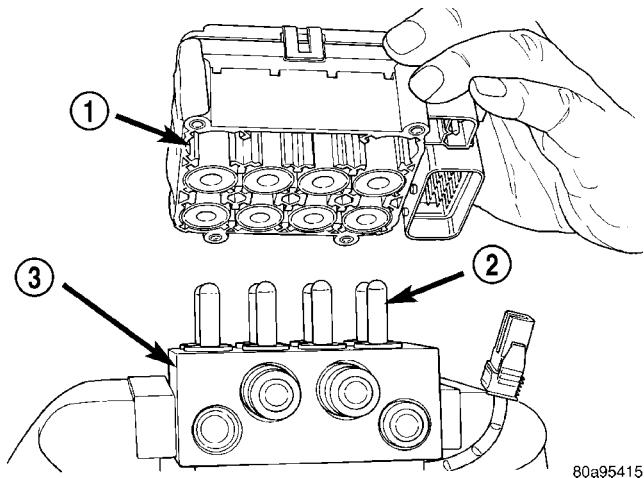

Fig. 21 Remove/Install CAB
(4) Remove the CAB from the HCU (Fig. 21).
(1) Install the CAB (Fig. 21) on the HCU.